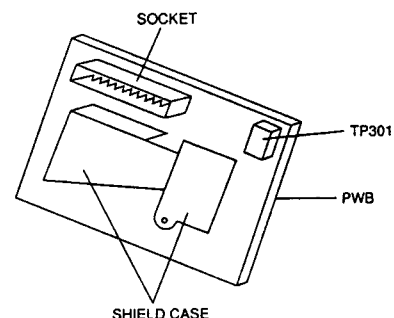

Figure 2-6.
4. Adjust R206 so that the amplitude of sync tip portion is $240 \pm 10m Vp-p$ shown in Figure 2-6.